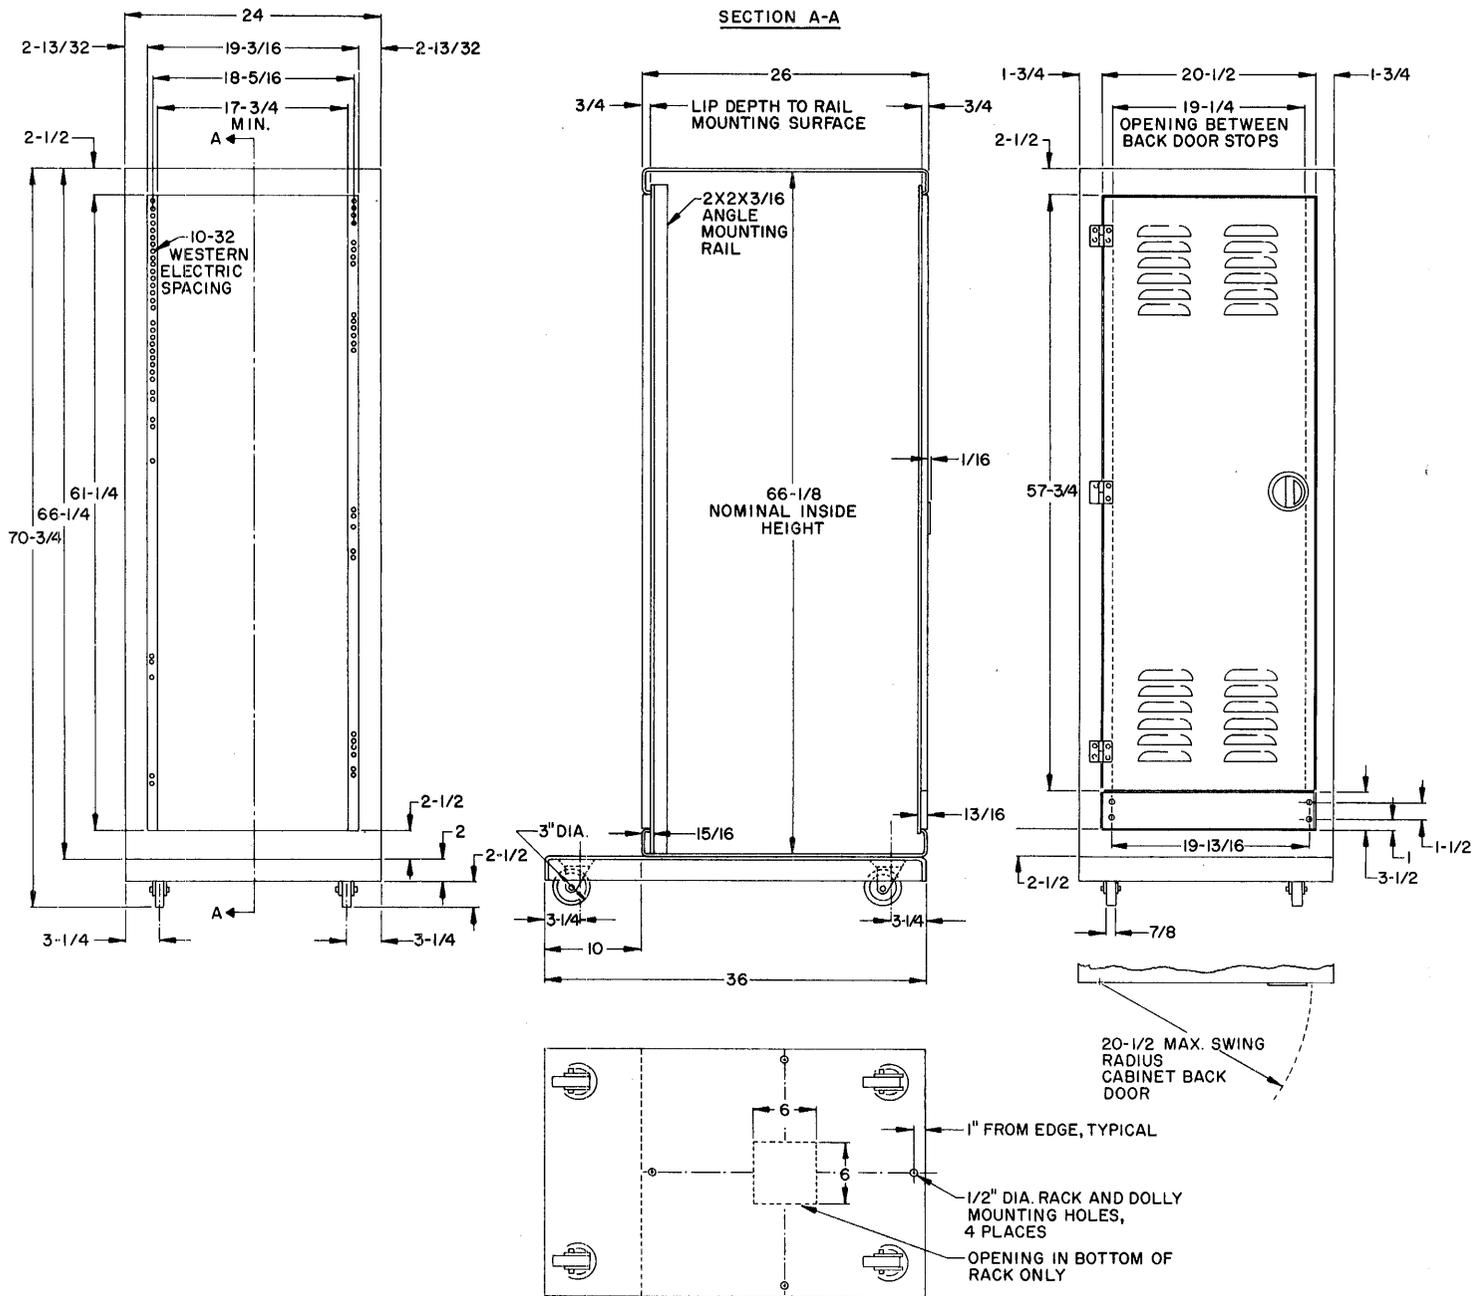

Figure 2-1
2. Specifications (see Fig. 2-1 for mounting details).
located so as to provide access to both front and rear of the cabinet. Mounting dimensions and clearances are shown in Fig. 2-1.